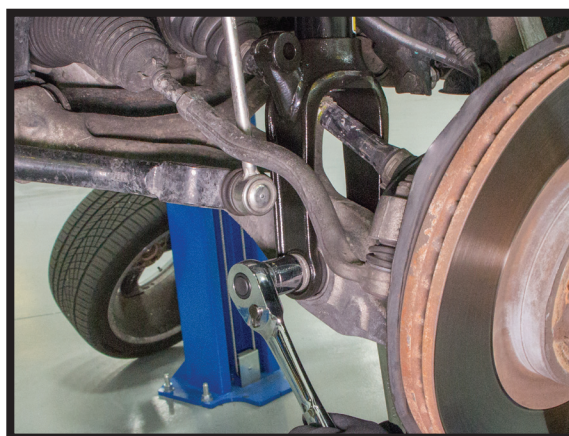

FIGURE 8
2. INSTALL THE LOWER SHOCK MOUNT BOLT AND NUT, TIGHTEN TO MANUFACTURE'S SPECIFICATION. (FIGURE 8)